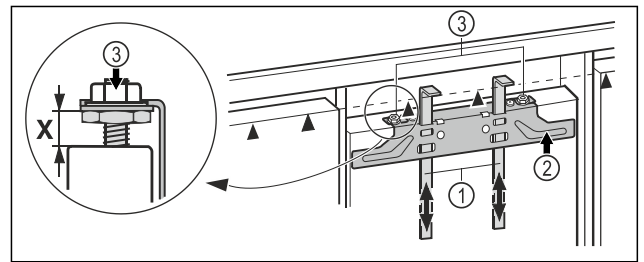

Fig. 20
- Push the assembly aids Fig. 20 (1) up to the height of the unit door. Lower stop edge ▲ of the assembly aid = upper edge of the cabinet door to be mounted.
- Unscrew the fastening crossbeam Fig. 20 (2) using the lock nuts Fig. 20 (3).